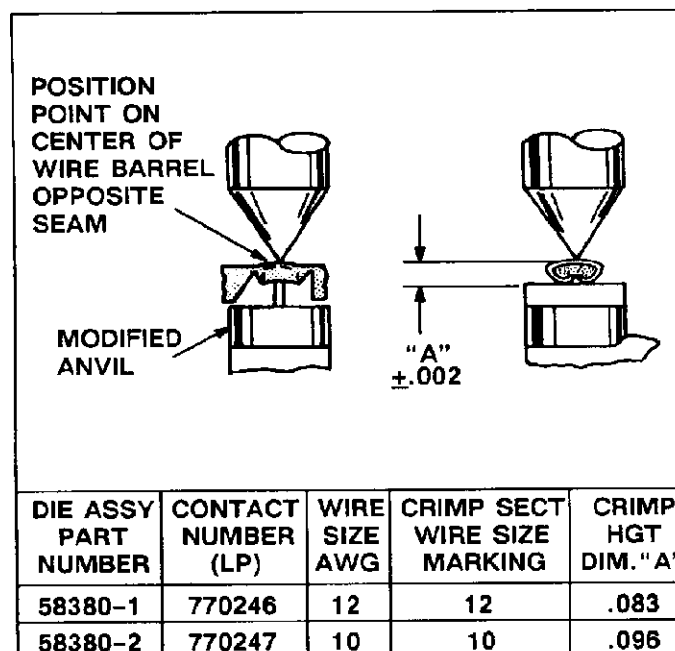

Fig. II-2
This inspection requires the use of a micrometer with a modified anvil, as shown in Figure II-2. AMP recommends the modified micrometer (Crimp Height Comparator RS-1019-5L) which may be purchased from:
1. Refer to the table in Figure II-2 and select a contact and a wire for the crimping die to be inspected.
3. Using the crimp height comparator, measure the wire barrel crimp height as shown in Figure II-2. If the crimp height conforms to the dimension indicated in Figure II-2, the die assembly is considered dimensionally correct. If not, return the die assembly to AMP for evaluation and repair (see Paragraph II-3, REPAIR). For additional information concerning the use of the crimp height comparator, refer to AMP Instruction Sheet IS 7424.